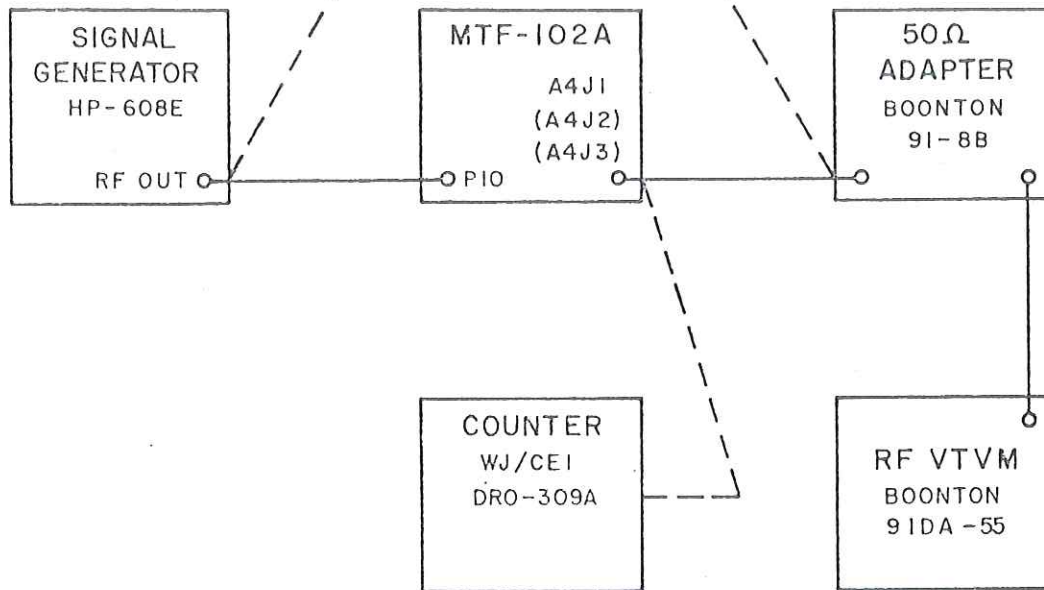

Figure 4-4. Test Setup, MTF-102A IF Coupler/Converter Tests
- (1) Set up the equipment as shown by the dotted line in Figure 4-4.
- (2) Set the signal generator for 160.000 MHz \pm 1 kHz, CW, approximately -30 dBm. Use the counter at the signal generator UNCAL jack to set the frequency.
- (3) Adjust the generator output level for a convenient reference on the RF VTVM.
- (4) Connect the equipment as shown by the solid line in Figure 4-4.
- (5) Measure the insertion loss from P10 (tuner IF out) to A4J1 (160 MHz IF OUT). It should be typically 5 dB or less.
- (6) Measure the insertion loss from P10 to A4J2 (SM OUT). It should be typically 13 dB.
- (7) Measure the insertion loss from P10 to A4J3 (21.4 MHz IF OUT). It should be typically 4 dB.
- (8) Measure the frequency at A4J3. It should be 21.400 MHz \pm 3 kHz. Increase the signal generator output level as necessary to obtain the frequency reading.